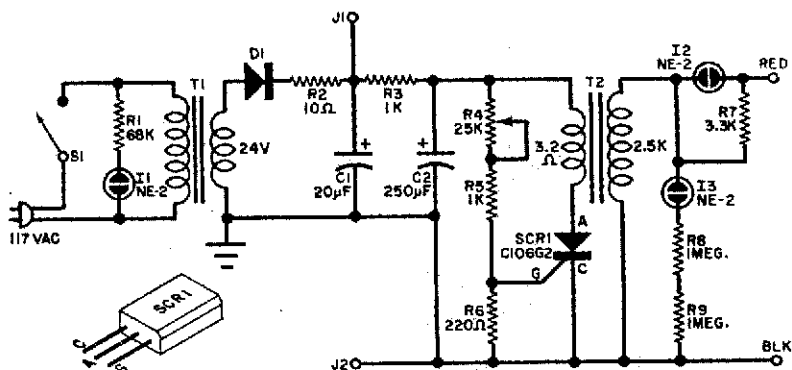

Fig. 1. The device can be powered either from an a.c. power line or from a conventional 45-volt "B" battery. There are no critical parts or adjustments.
**Construction.** The circuit, diagrammed in Fig. 1, can be built in a metal or plastic utility box. Parts layout is not critical, and all components can be affixed to the front metal cover as shown in Fig. 2. This type of construction makes for easy assembly, wiring, and troubleshooting—in the event that it should ever become necessary. If a metal box is
Use a heat sink (long-nose pliers on each lead) when soldering the SCR, and toothed lock washers and soldering lugs for all chassis connections. For ease in output identification, use a red-insulated wire for the high-voltage lead and a black-insulated wire for the ground lead (see Fig. 1). "Power on" indicator *I1* should be housed in a red plastic holder, while "operation" indicator *I2* should have some other color plastic holder (orange, for example). Lamp *I3* is contained within the box and requires no plastic mounting.